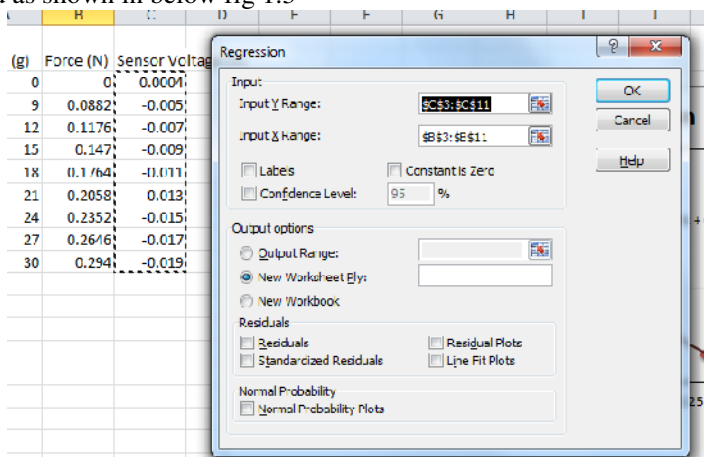

Fig 1.3: Excel sheet showing Regression analysis
- Click on Data analysis which is present in Data-> Data Analysis and select regression and click OK, a window will be opened as shown in below fig 1.3